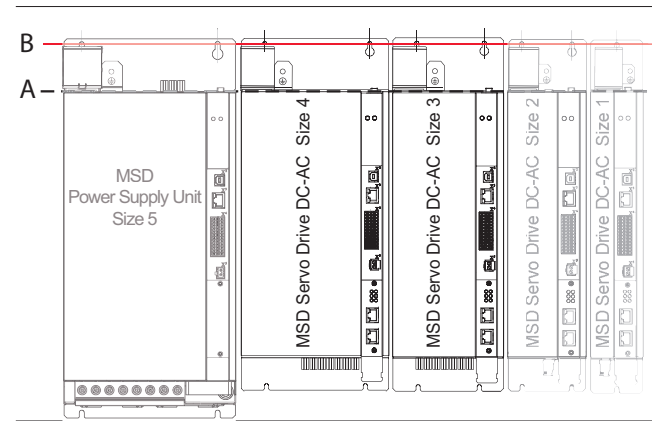
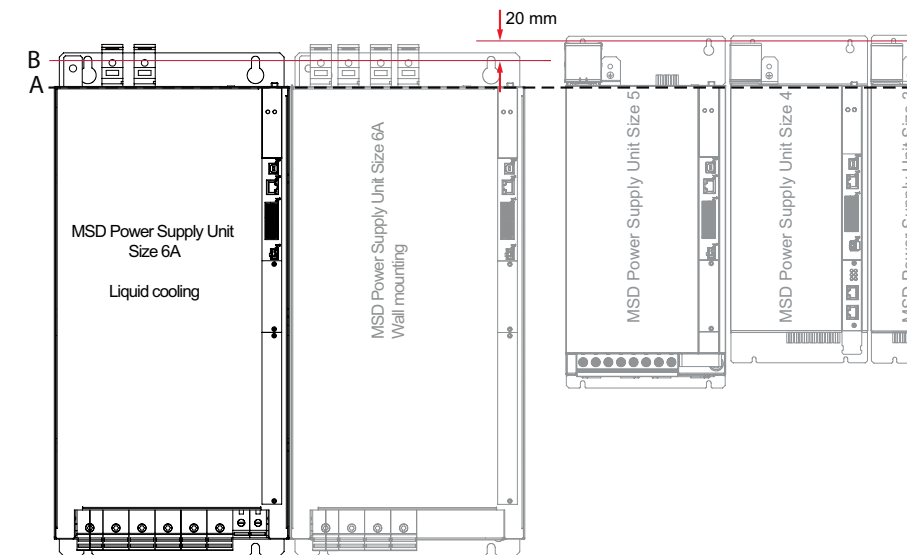
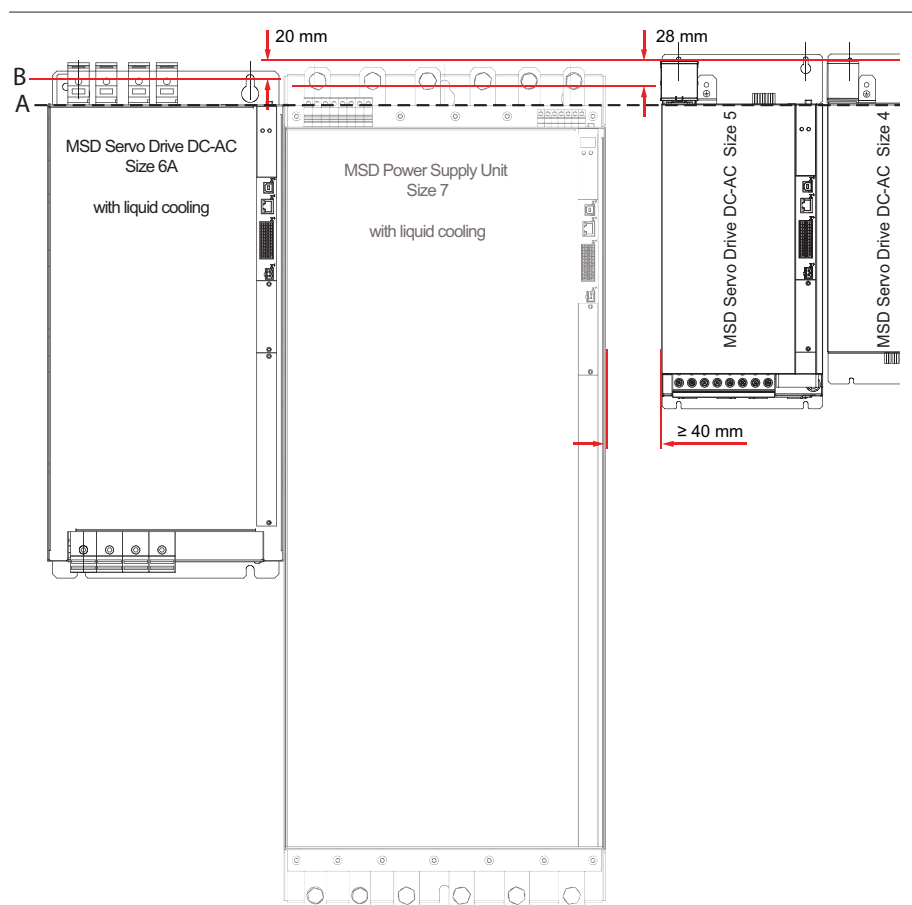

Figure 3.12 Alignment of DC-AC Servo Drives in relation to Power Supply Unit Size 5 (example)
Figure 3.13 Alignment of DC-AC Servo Drives in relation to Power Supply Unit Size 6A (example)
Figure 3.14 Alignment of DC-AC Servo Drives in relation to Power Supply Unit Size 7 (example)
1.	<p>Arrange the devices starting from the Power Supply Unit to the right and/or left sorted in descending order by power rating to minimise the thermal effects.</p> <ul style="list-style-type: none"> Align all DC-AC Servo Drives and the Power Supply Unit Size 5 in a line along the top edge of the devices (see line A in Figure 3.12). This action is necessary to be able to supply the DC power using the pre-assembled cables. Align all DC-AC Servo Drives and the Power Supply Unit Size 6A in a line along the top edge of the devices (see line A in Figure 3.13). Move down the mounting bores for DC-AC Servo Drive Size 6A and the Power Supply Unit BG6 by approx. 20 mm (0.787 in) (see red line B in Figure 3.13). This action is necessary to be able to make the DC link connections. Align all DC-AC Servo Drives and the Power Supply Unit Size 7 in a line along the top edge of the devices (see line A in Figure 3.14). Move down the mounting bores for the Power Supply Unit Size 7 by approx. 28 mm (1.102 in) and for the DC-AC Servo Drive Size 6A by approx. 20 mm (0.787 in) (see red line B in Figure 3.14). In addition, a distance of ≥ 40 mm (1.574 in) must be maintained at the side (in the figure to the right of the Power Supply Unit Size 7. This action is necessary to be able to make the DC link connection. <p>For information on the mounting clearances see Table 3.2.</p>